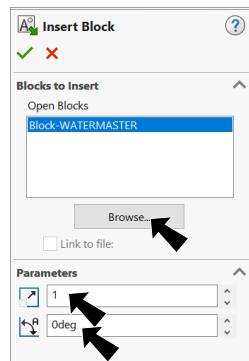

Fig. 73
Step 4. In Insert Block Property Manager, click **Browse**, **Fig. 73** in the Open dialog box, navigate to **Documents\Tech Ed 23-24\Watermaster** and open **WATERMASTER** block file under Parameters